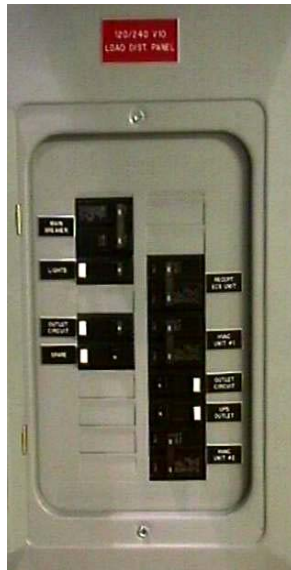

Figure 3-3. Power Distribution Panel (50-amp Main Breaker)
**3-2.3.4 Power Distribution Panel.** From the MBT, 208-volt power is delivered to the power distribution panel (see Figure 3-3). The SNDLRCS power distribution panel is a load center rated at 120/240 volts, 100 amps and is provided with a 50-amp main breaker.